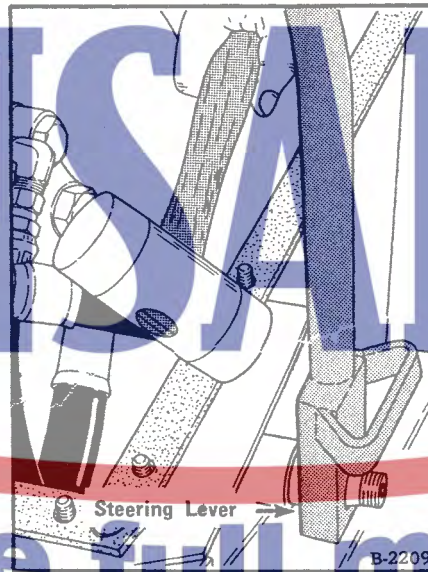
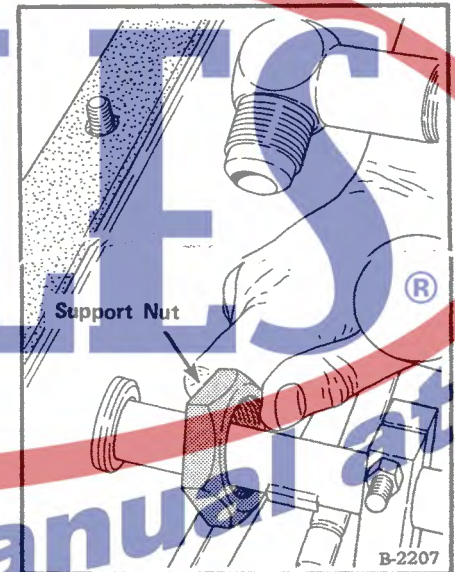
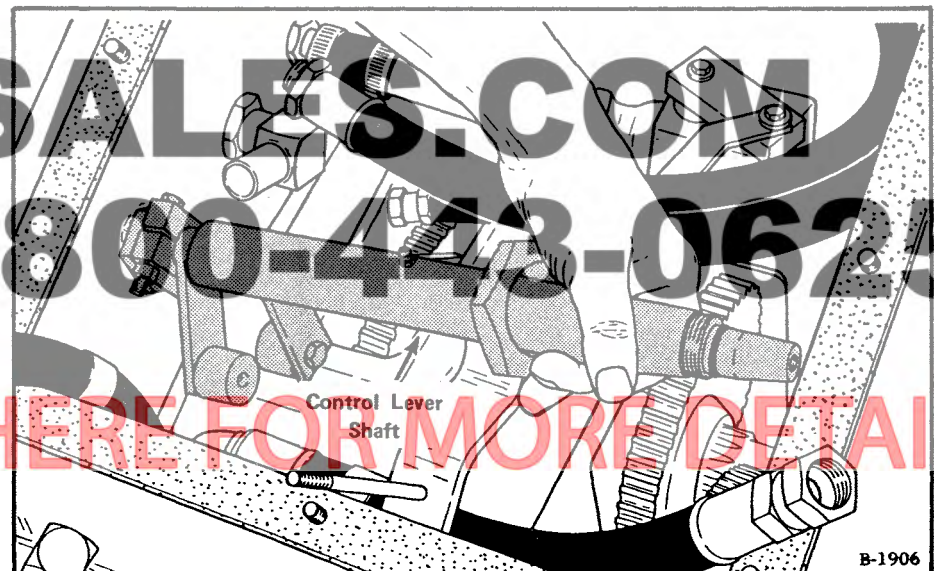

Fig. 3-6 Removing Steering Lever
Fig. 3-7 Steering Lever Support Nuts
Fig. 3-8 Removing Control Lever Assembly
- (1) Tilt or remove ROPS (See Section 5-2).
- (2) Lift the lift arms and install cylinder support.
- (3) Clean area thoroughly.
- (4) Remove brake if equipped.
- (5) Remove steering levers (Fig. 3-6).
- (6) Disconnect linkage.
- (7) Loosen support nuts (Fig. 3-7).
- (8) Slide LH shaft over to welded bracket.
- (9) Remove LH support nut.
- (10) Remove LH rod.
- (11) Remove RH support nut.
- (12) Raise LH end of shaft and remove assembly from transmission (Fig. 3-8).